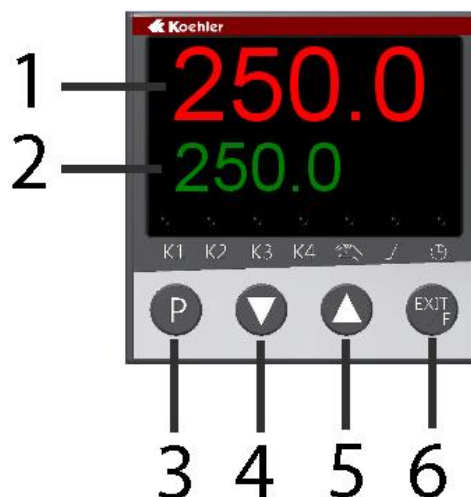

Figure 1. Digital Temperature Controller
**Temperature Controller.** The digital temperature controller as shown in Figure 1 provides full temperature control of the apparatus.